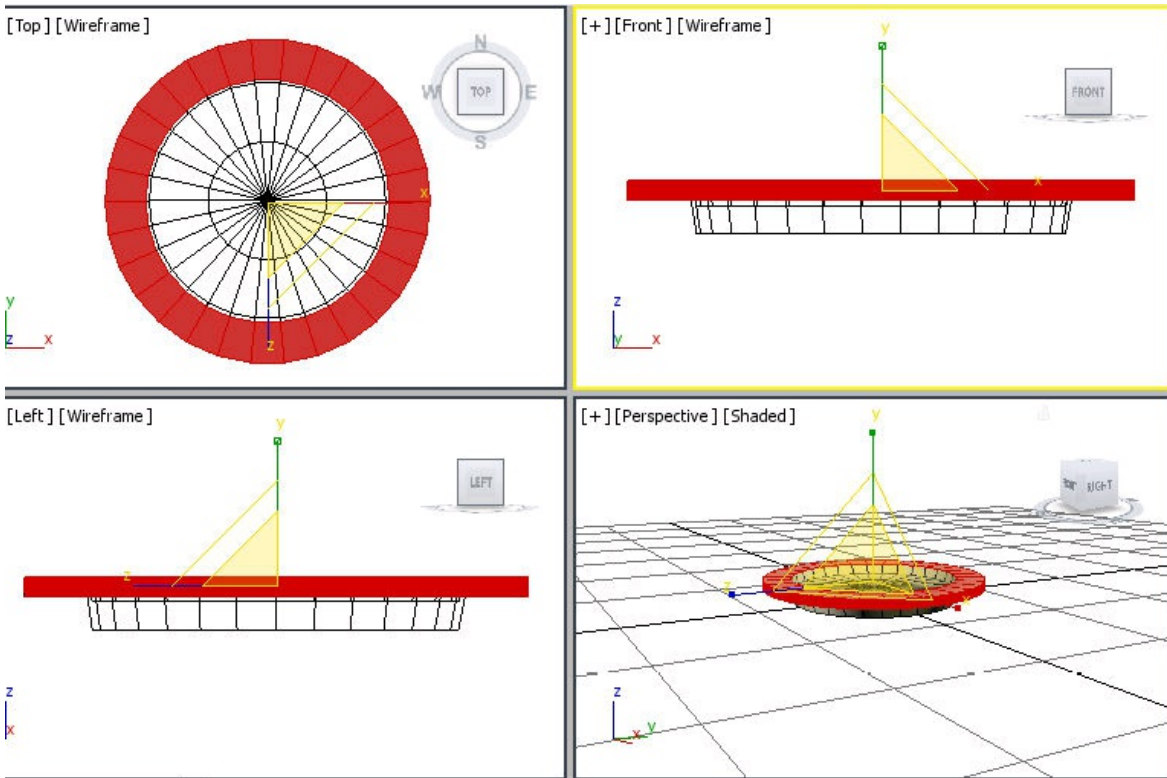

Figure 10-65 *The selected polygons moved and scaled*
5. Choose the **Select and Move** tool and move the selected polygons upward and then scale them, as shown in Figure 10-65.